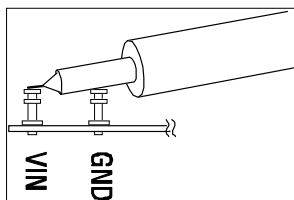

Figure 2. Measuring Input or Output Ripple
NOTE: When measuring the input or output voltage ripple, care must be taken to avoid a long ground lead on the oscilloscope probe. Measure the input or output voltage ripple by touching the probe tip directly across the Vin or Vout and GND terminals. See the proper scope probe technique in figure 2.
5. Set the load current of both outputs to 3A and the input voltage to 15V, and then measure each output ripple voltage (refer to figure 2 for proper measurement technique); they should each measure less than 30 mVAC. Also, observe the voltage waveform at either switch node (pins 23 & 24 for reg.1 and 13 & 14 for reg.2) of each regulator. The switching frequencies should be between 800 kHz and 1.2 MHz ($T = 1.25 \mu\text{s}$ and $0.833 \mu\text{s}$). To realize 2 MHz operation, change the shunt position on header JP14. In all cases, both switch node waveforms should be rectangular in shape, and 180° out-of-phase with each other. Change the shunt position on header JP11 to set the switch waveforms in phase with respect to each other. To operate the ckt.s in Burst Mode™, change the shunt in header JP8 to the Burst Mode™ position. When finished, insert shunts XJP1 and XJP2 to the OFF position(s) and disconnect the power.